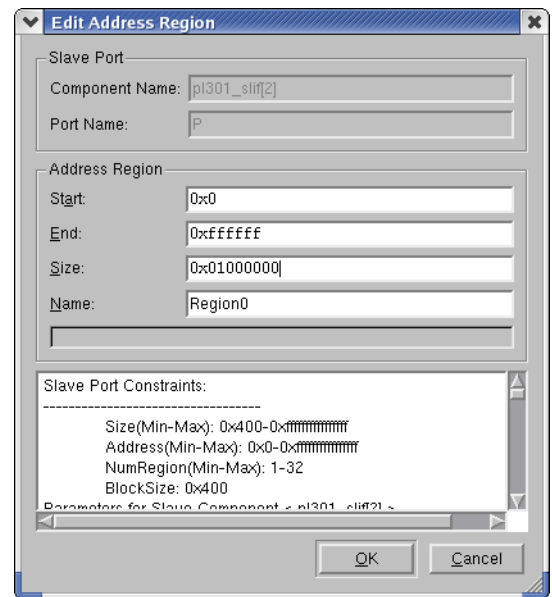

Figure 4-16 Address map for slave 2
15. Enter 0x01000000 in the Size field, as Figure 4-16 shows.